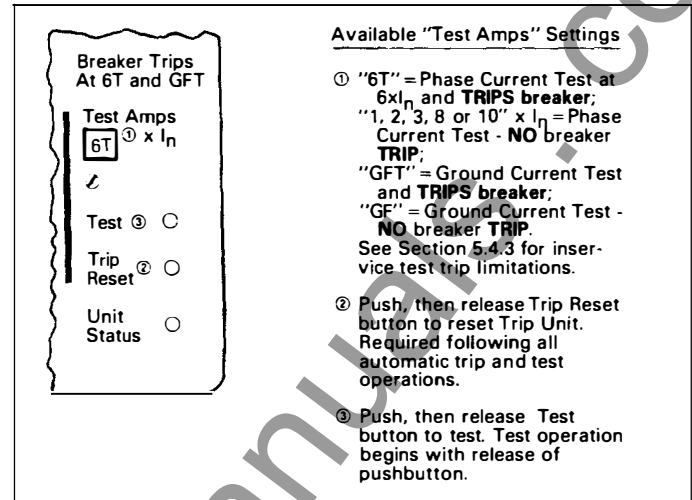

Fig. 5 Integral Test Panel (Lower Right Corner of Trip Unit)
As indicated in Fig. 5, six different "Test Amps" settings (1, 2, 3, 6T, 8 and 10X I_n) are available for testing the phase elements of the trip unit, and two (GF, GFT) are provided for testing the ground elements.
1. Place the "Test Amps" selector switch (See Fig. 5) in one of the six "No Trip" test settings, i.e., 1, 2, 3, 8, or 10, x I_n , or GF.
2. Place the "Test Amps" selector switch (See Fig. 5) in one of the two "Trip" test settings, i.e., 6T or GFT.
3. Depress the black "Test" pushbutton (See Fig. 5) and release it - the test is initiated when the pushbutton is released.
5. Reset the trip unit by depressing and releasing the "Trip Reset" pushbutton (See Fig. 5). All LEDs lighted by the "Trip" test action should turn "OFF".